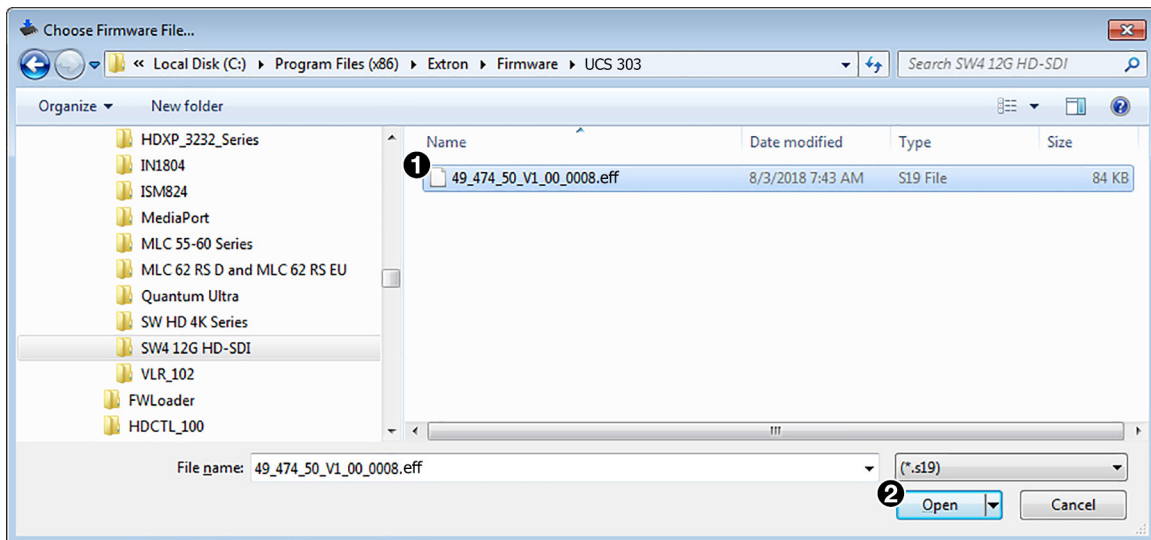

Figure 24. Choose Firmware File Window
4. Click **Add** (❹) at the bottom of the dialog box. The Add Device window closes, and the UCS 303 information is added to the Device panel of the Firmware Loader dialog box.
6. In the Choose Firmware File window, browse to locate the new firmware file, select it (see figure 24, ❶ on the next page) and click **Open** (❷).